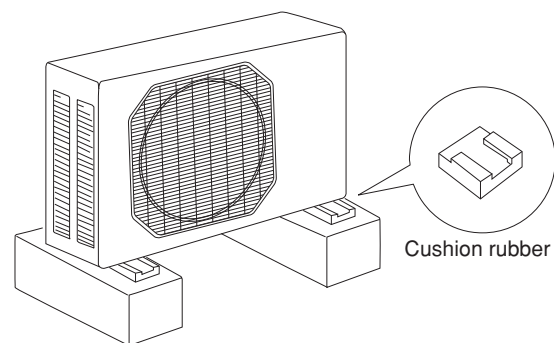

Fig. 5c
- install cushion rubber under unit's feet to reduce vibration and noise. (Fig. 5c)